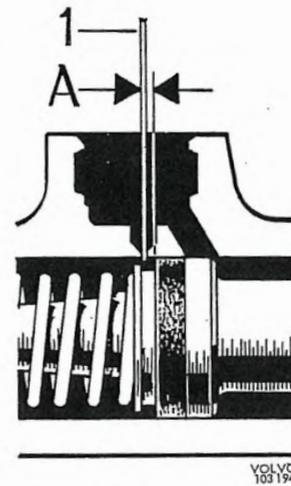

Fig. 5-53. Checking equalizing hole
7. Check the movement of the pistons and that the through-flow holes are not blocked. The equalizing holes are checked by inserting a soft copper wire, diameter 0.5 mm (25 s.w.g.), see Fig. 5-53. If an equalizing hole is not clear, this means that the master cylinder is generally wrongly assembled.